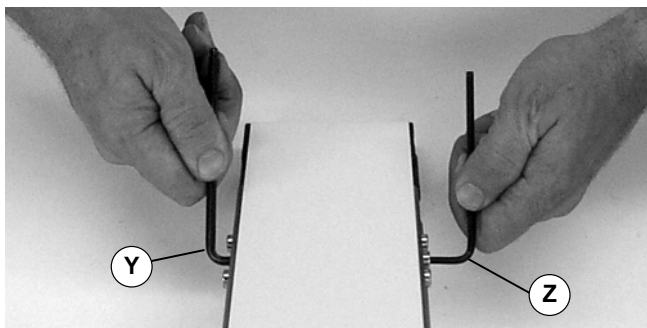

Figure 22
5. While maintaining tension on pinion gear (Y of Figure 22) loosen lock screw (Z). Rotate pinion gear (Y) clockwise to release conveyor belt tension.
6. While maintaining tension on pinion gear (Y of Figure 22) loosen lock screw (Z). Rotate pinion gear (Y) clockwise to release conveyor belt tension.
2. With pinion gear engaged, insert a 4 mm hex key wrench into lock screw (Z of Figure 22).
3. Loosen lock screw (Z of Figure 22).
5. Secure lock screw (Z of Figure 22) to 40 in-lb (4.5 Nm).